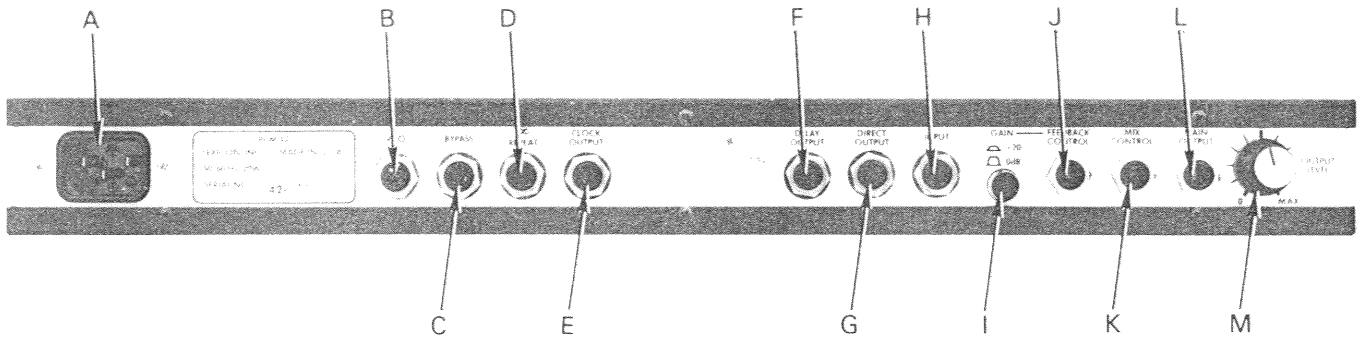

Figure 2.2 — PCM 42 REAR PANEL
The PCM 42 will not power up in repeat mode. If the INFINITE RPT button is "IN" at time of power up, the unit will not enter the repeat mode until the pushbutton is released and pressed again. Repeat mode can also be selected through a momentary-contact switch attached to the rear panel INFINITE REPEAT jack (Fig. 2.2, D).
INPUT (Fig. 2.2, H)
The MAIN, DIRECT and DELAY audio outputs (Fig. 2.2, L, G and F) are unbalanced (single-ended), and are intended for use with a T/S phone plug. Load impedances of 5 kilohms or higher can be driven to full levels; loads as low as 600 ohms may be driven without loss of signal quality, although the output level will be reduced slightly. If the PCM 42 is used to drive microphone level inputs from the DIRECT or DELAY outputs, it will be necessary to insert a 20- or 30-dB pad at the input to the driven device. The MAIN OUTPUT has its own level control.
FEEDBACK CONTROL JACK (Fig. 2.2, J)
MIX CONTROL JACK (Fig. 2.2, K)
BYPASS SWITCH JACK (Fig. 2.2, C)
INFINITE REPEAT SWITCH JACK (Fig. 2.2, D)
VCO REMOTE JACK (Fig. 2.2, B)
3.6 CLOCK OUTPUT (Fig. 2.2, E)